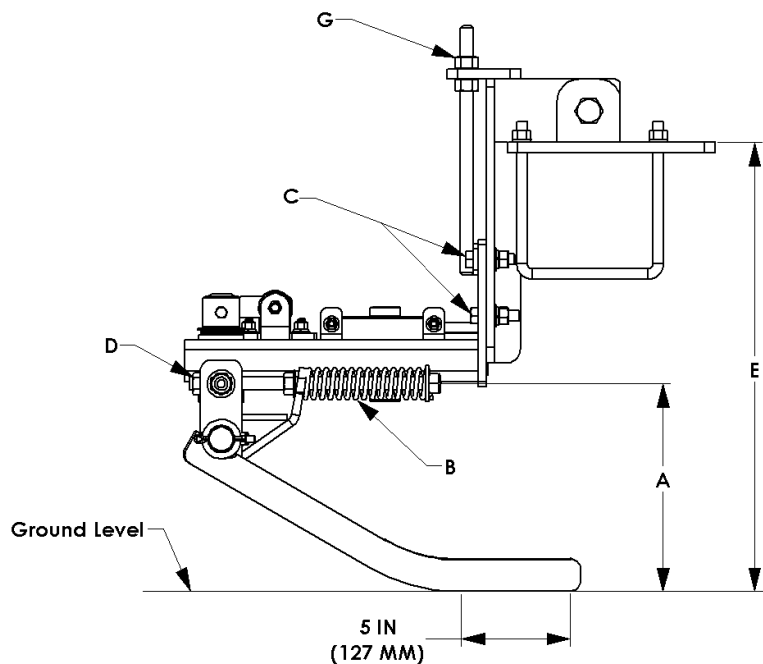

Figure 7-1: Row Finder Adjustment
When harvesting, the row finder wands should be adjusted like Figure 7-1 such that there is 5 inches (12.7 cm) of contact between the ground and row finder wands. Adjustment spring (B), shown in Figure 7-1, can be adjusted to apply more down pressure to ensure constant contact with the beet row.